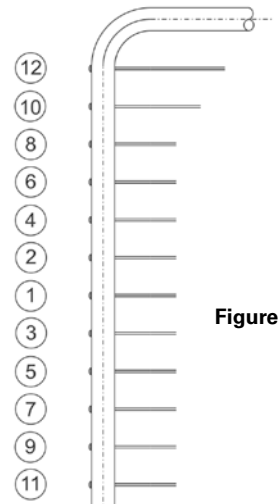

Figure 11
2. Tension all cables in sequence, beginning with the center cables, moving up and down toward the top and bottom. As you tension each cable, give it a sharp pull downward mid-span to help set the wedges, then re-tension as necessary in the same sequence. (Figure 11)